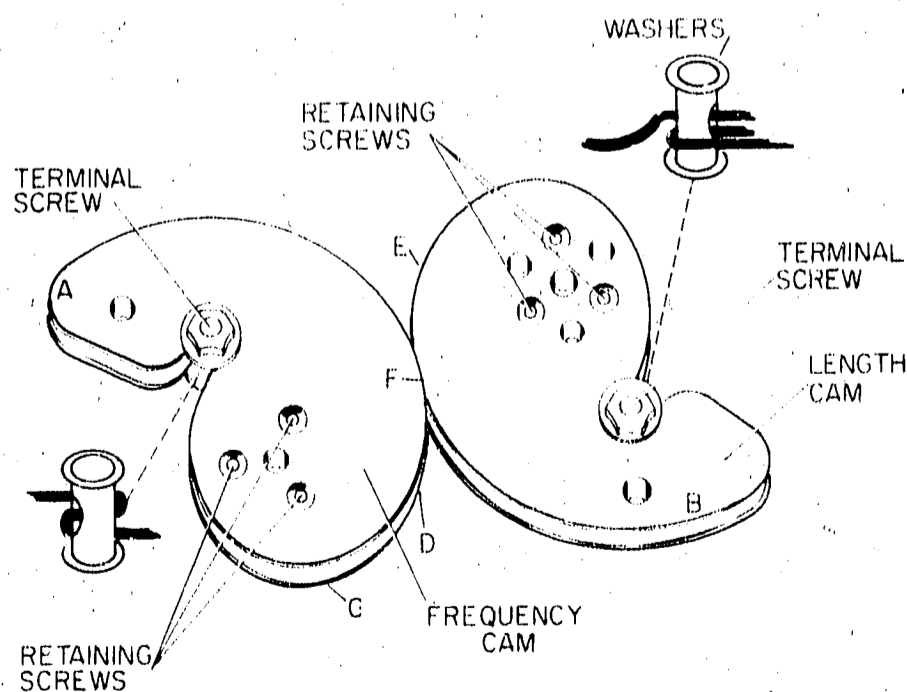

Figure 5-12. Cam Assembly
5-53. If it is necessary to replace cam cable, order it by HP Part No. 08614-259 and description of usage. For easier access to the cams, remove the screws holding the High Voltage circuit board and swing the board out of the way. Use Figures 5-12 and 5-13 as guides and proceed as follows:
- Turn FREQUENCY (MC) to approximately the middle of the frequency band.
- Orient Length Cam to Frequency Cam as shown in Figure 5-12.
k. Slide cable through one terminal screw so that cable is oriented to terminal screw as shown in Figure 5-12 for the Frequency Cam, and install terminal screws on Frequency Cam.
Each cam as shown in Figure 5-12 has two lips along which the cable should travel: one cable MUST travel along the upper lip of both cams and one cable must travel along the lower lip of both cams.